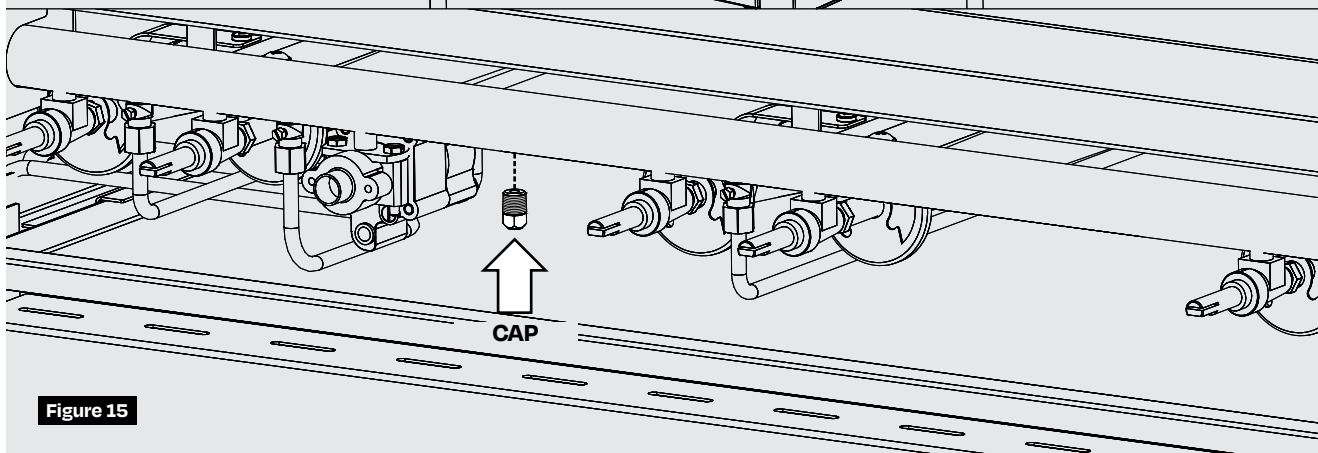

Figure 15
2. Unscrew the cap on the gas manifold and screw on the pressure gauge. **(Figure 15)**